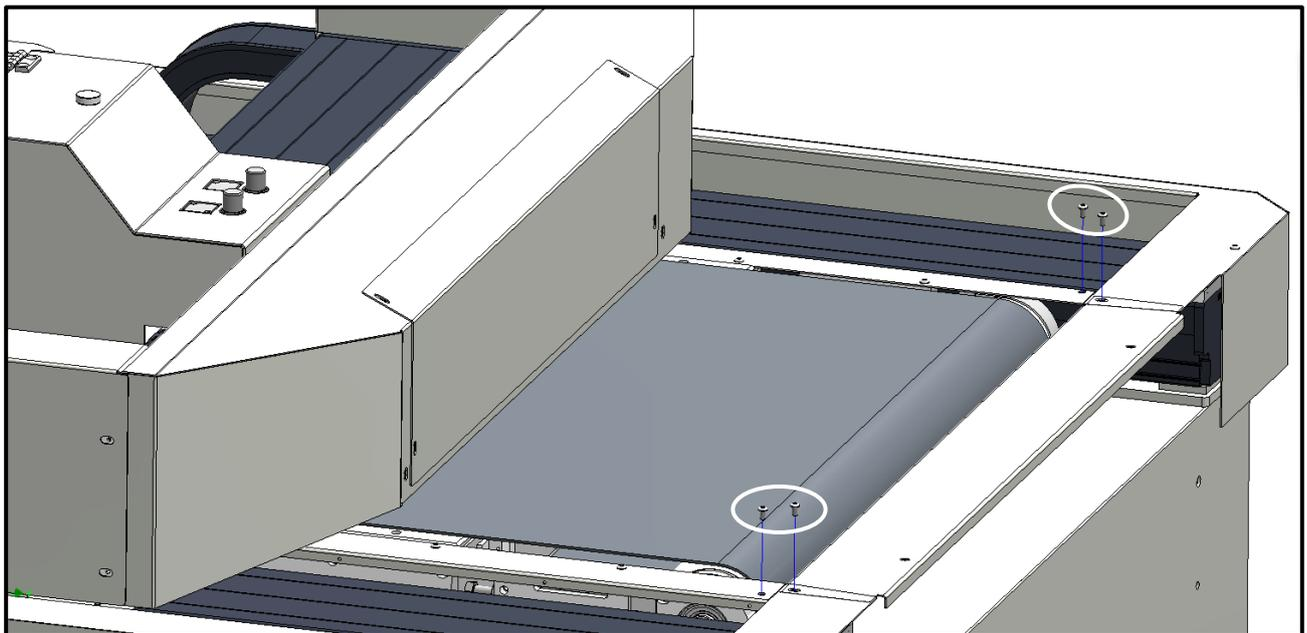

Figure 5-15
- Remove the 4 screws indicated at figure 5-15 to have access to the back of the machine.
- Couple the loader with the machine by screwing and tightening the 6 screws removed previously (Figure 5-15).